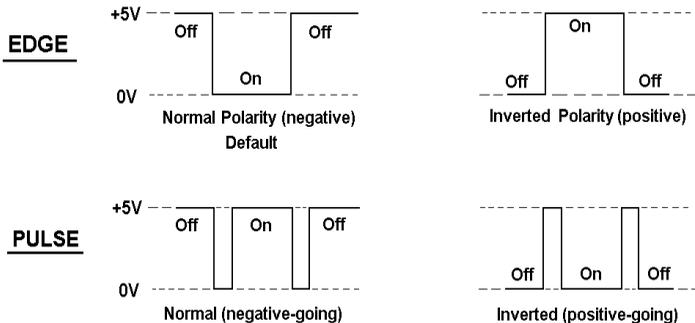

Figure D-4. TTL and Relay Input Signal Modes
- *Normal Edge*: In normal edge operation, the negative (falling) edge of a signal turns on the function and the positive (rising) edge turns off the function (see Figure D-4). For example, a negative edge sent to TTL4 turns on the column temperature control, while a positive edge turns it off.